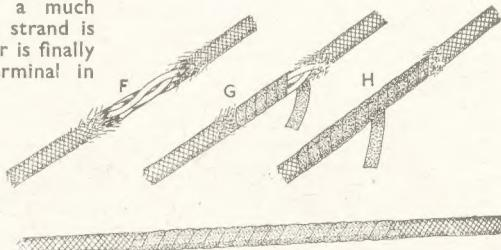

Fig. 2—How to treat and repair worn flex covering
In the detail at Fig. 2 view (E) indicates a piece of flex, the outer bading of which is frayed, exposing the three strands of rubber to be found in three core flex. If the rubber covering is intact and sound, first bind a length of rubber tape round the worn part, as indicated in view (F).